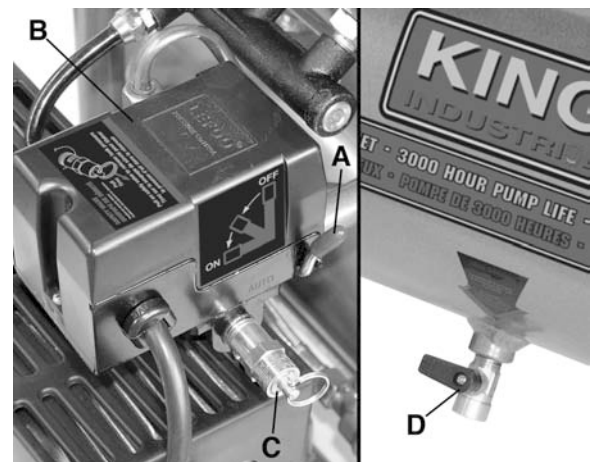

FIGURE 6
ON/AUTO-OFF SWITCH (A) FIG.6. Turn this switch ON to provide power to the automatic pressure switch and OFF to remove power at the end of each use.
PRESSURE SWITCH (B) FIG.6. The pressure switch automatically starts the motor when the tank pressure drops below the factory set “Cut-In” pressure. It also stops the motor when the air tank pressure reaches the factory set “Cut-Out” pressure.
ASME SAFETY VALVE (C) FIG.6. If the pressure switch does not shut off the air compressor at its cutout pressure setting, the safety valve will protect against high pressure by “popping out” at its factory set pressure (slightly higher than the pressure switch cut-out setting).
DRAIN VALVE (D) FIG.6. The drain valve is located at the base of the air tank and is used to drain condensation at the end of each use. Turn drain valve counterclockwise to open (no pressure build-up) or clockwise to close it (permits pressure build-up).
4. Pull ring on safety valve (C) Fig.6, allowing air to bleed from the tank until tank pressure is approximately 20 psi. Release safety valve ring.
5. Drain water from air tank. Turn drain valve (D) Fig.6, counterclockwise to open.
NOTE: If drain valve is plugged, pull ring on safety valve (C) Fig.6, and hold until all air pressure has been released. The drain valve can then be removed, cleaned, and reinstalled.